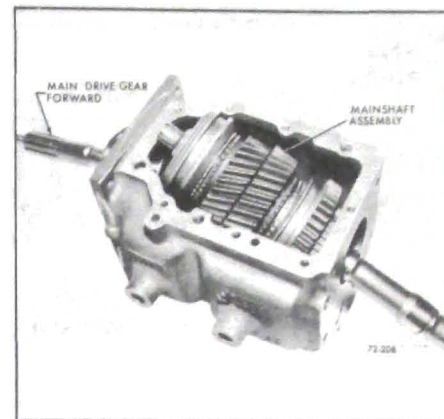

Figure 72-208 - Removing Mainshaft Assembly
18. Remove mainshaft assembly through top of case. See Figure 72-208.